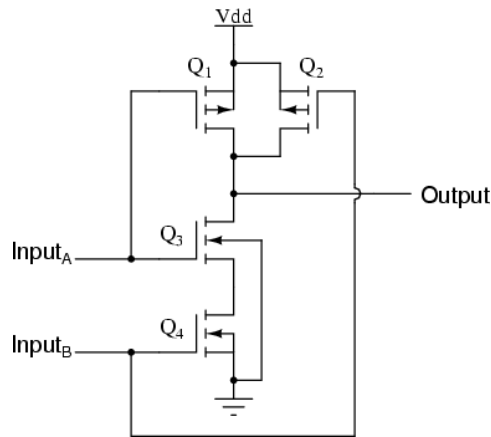

Fig 6.6: CMOS NAND gate
In fig 6.6 the transistors Q_1 and Q_3 are series-connected complementary pair from the inverter circuit. Both are controlled by the same input signal (input A), the upper transistor turning off and the lower transistor turning on when the input is "high" (1), and vice versa. The transistors Q_2 and Q_4 are similarly controlled by the same input signal (input B), and how they will also exhibit the same on/off behaviour for the same input logic levels. The upper transistors of both pairs (Q_1 and Q_2) have their source and drain terminals paralleled, while the lower transistors (Q_3 and Q_4) are series-connected. What this means is that the output will go "high" (1) if *either* top transistor saturates, and will go "low" (0) only if *both* lower transistors saturate. The following sequence of illustrations shows the behaviour of this NAND gate for all four possibilities of input logic levels (00, 01, 10, and 11):